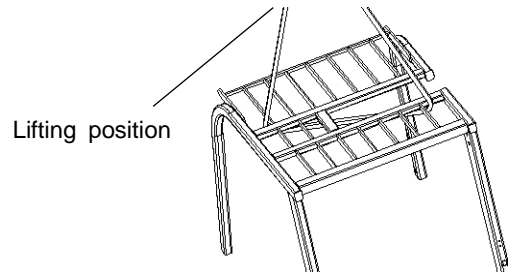

Figure 2-40
(2) Figure 2-40 shows how to lift the top shelf